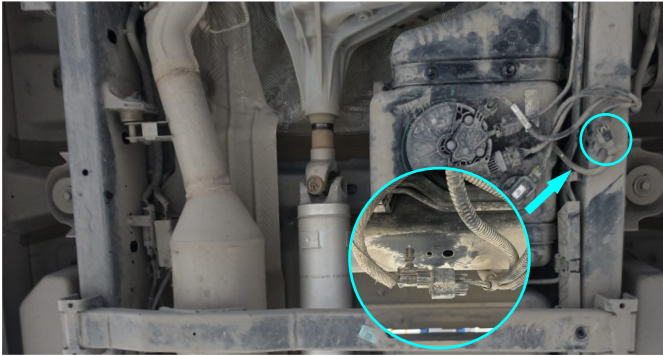

Fig. 1
1. Remove factory wiring from the frame (fig.1).